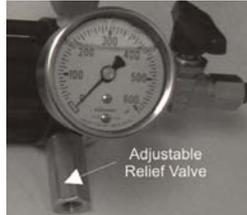

Figure 3
- 2.3.1 **If your cylinder is equipped with an *adjustable relief valve*** (see Figure 3): set the valve at least 50-100 psi above pipeline pressure, not to exceed the maximum allowable working pressure indicated in Table 1 (*refer to IO&M for relief valve*).